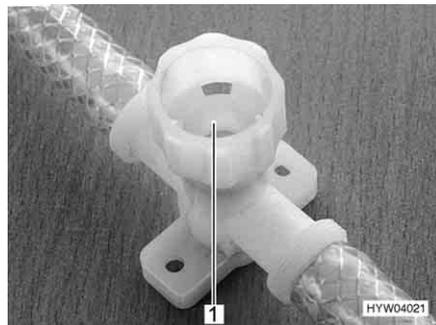

Fig. 143 Drain cock for hot water source
- Close all drain cocks. To do this, close the caps (Fig. 143,1) by turning them in a clockwise direction.
- Open all drain cocks of the hot water source. To do this turn the caps (Fig. 143,1) in an anticlockwise direction.